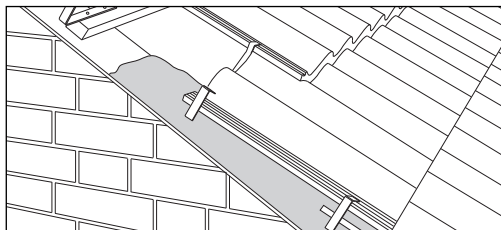

Fig 15 – Clip all verge tiles
- 1 When required, nail verge clips to top of battens with upstand level with edge of undercloak (Fig 15).